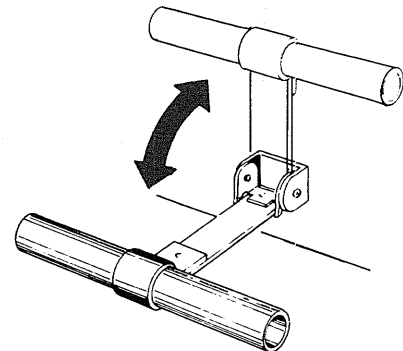

Fig. 9
- Refer to "AM Reception" on page 9. With an AM station tuned in, position the ferrite antenna for optimum pickup. See Fig. 9.